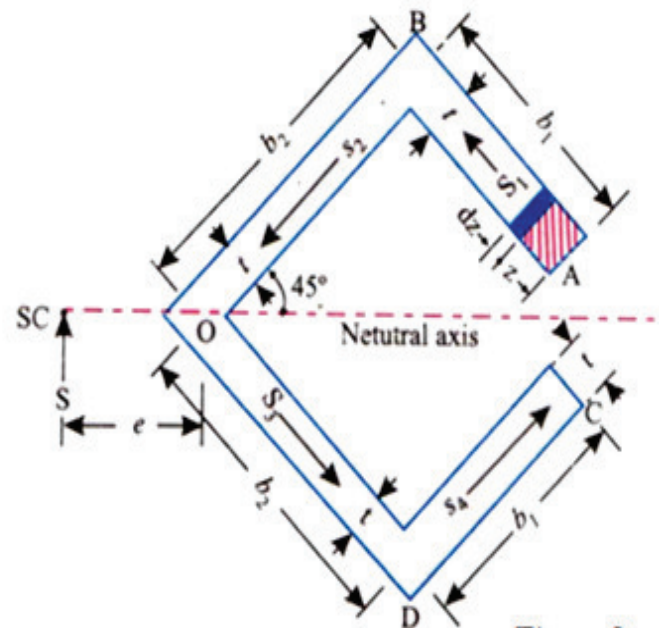

Figure 3
5. Locate the shear centre of the section shown in Figure 3.